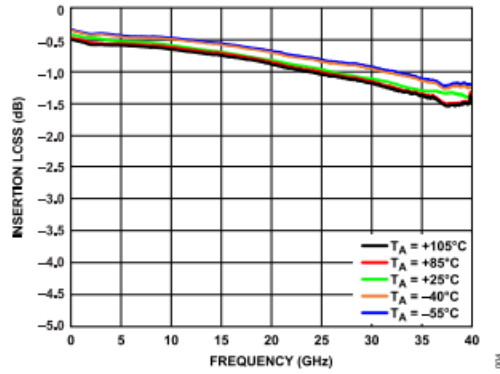

Figure 4. Insertion Loss vs. Frequency over Various Temperatures
6. The ADRF5715-EVALZ is expected to have an insertion loss of 1.15 dB at 30 GHz. See the expected results in Figure 4.